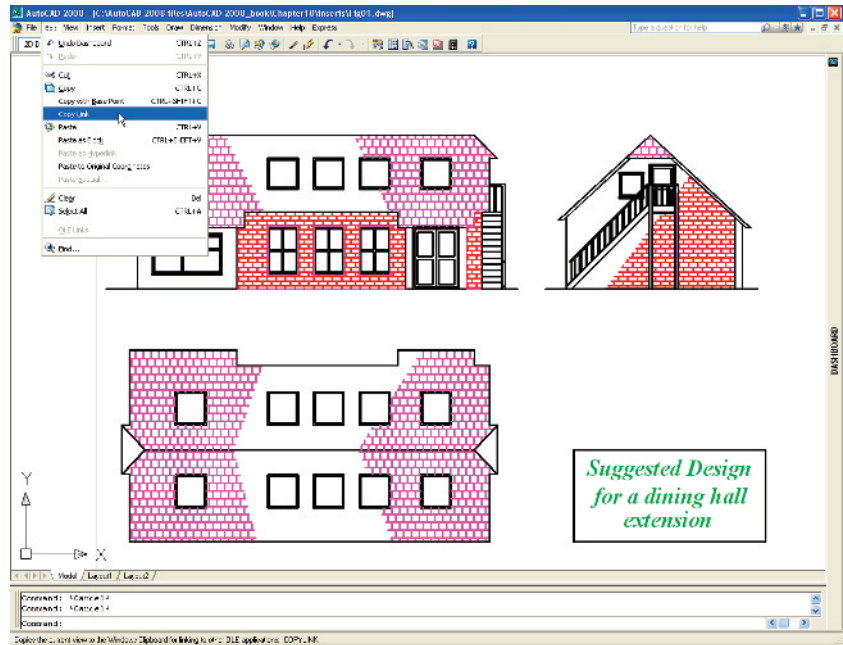

Fig. 10.1 A drawing in the AutoCAD 2008 window showing **Copy Link** selected from the **Edit** drop-down menu
1. Open any drawing in the AutoCAD 2008 window (Fig. 10.1).
2. *Left-click Copy Link* in the **Edit** drop-down menu (Fig. 10.1).